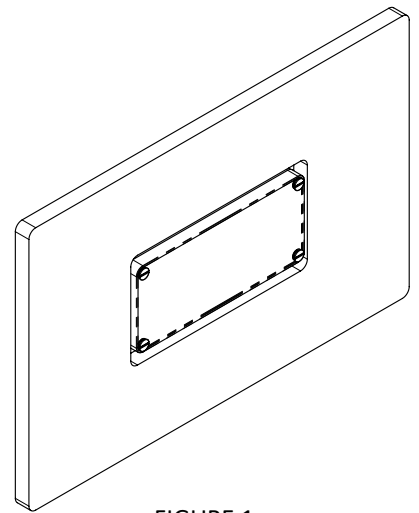

FIGURE 1
2. Mark and cut out section of drywall allowing approximately 1/2" clearance around the SES160F enclosure. (See Figure 1)